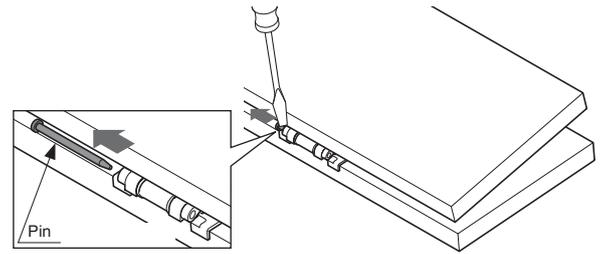

Fig.10
step12 When the door cannot be shut fully, loosen the adjusting screws of the mounting plate and fix the latter at the position where the door is closed fully. The adjusting screws are able to adjust the horizontal position in the range of ±5mm. After fixing the position be sure to tighten the adjusting screws additionally (Fig. 10).